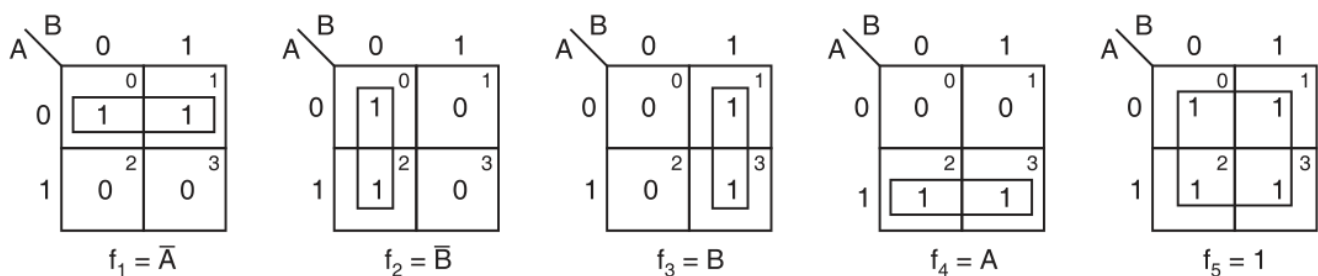

Figure 6.4 The possible minterm groupings in a two-variable K-map.
- **Allowed Groupings in 2-Variable K-Map (Kumar, p. 266, Figure 6.4):**